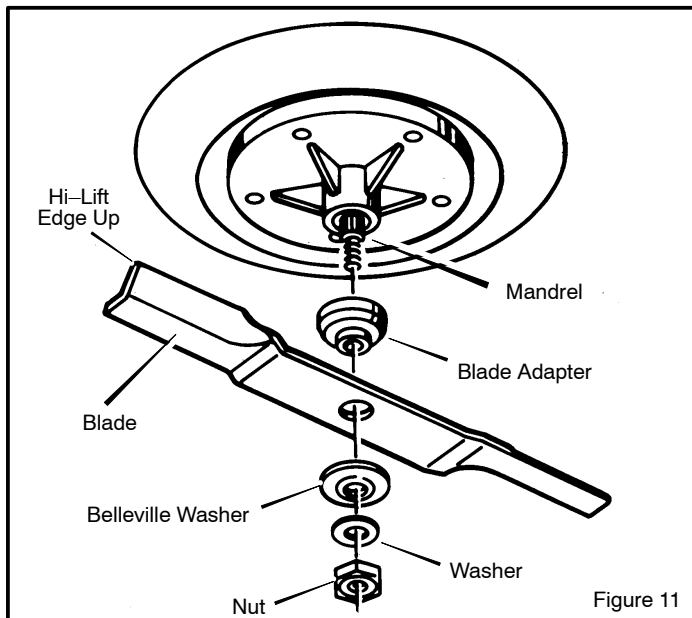

Figure 11
3. Remove the **nut** that holds the blade (Figure 11).
6. Mount the **blade** and **blade adapter** on the **mandrel** (Figure 11).